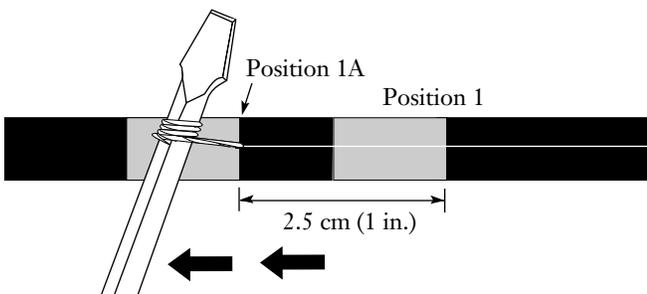

Figure 9
5.10 Pull the rip cord through the sheath to the tape mark at Position 1A to accommodate application of grounding hardware on the armor (Figure 9).